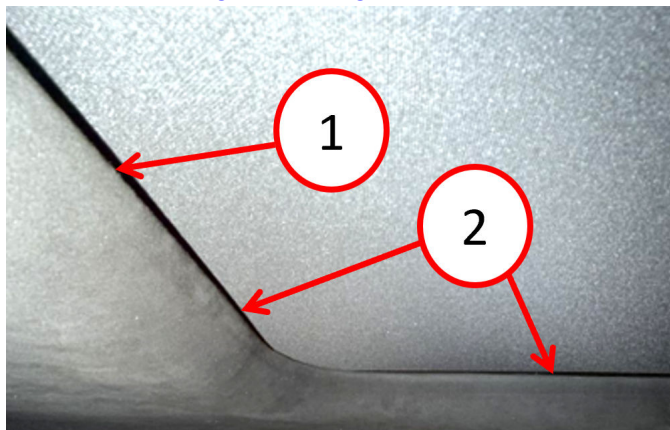
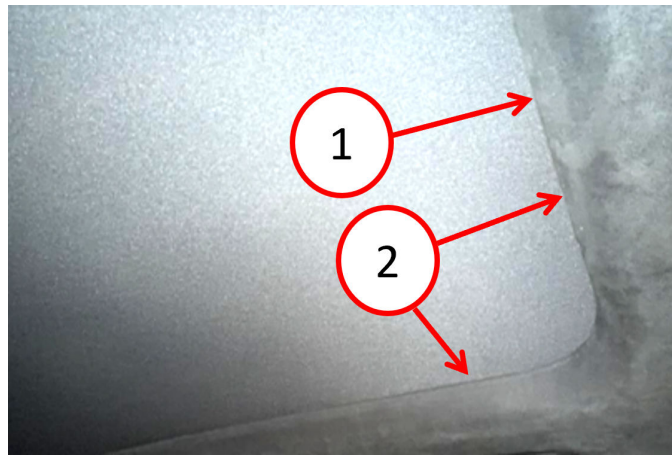

Fig. 2
Fig. 3
3. From the rear of the sunroof opening, release the four hook and loop fasteners from around the sunroof opening by pulling down on the headliner Fig. 2 and Fig. 3.
8. Fasten the headliner to the four hook and loop fasteners Fig. 2 and Fig. 3.